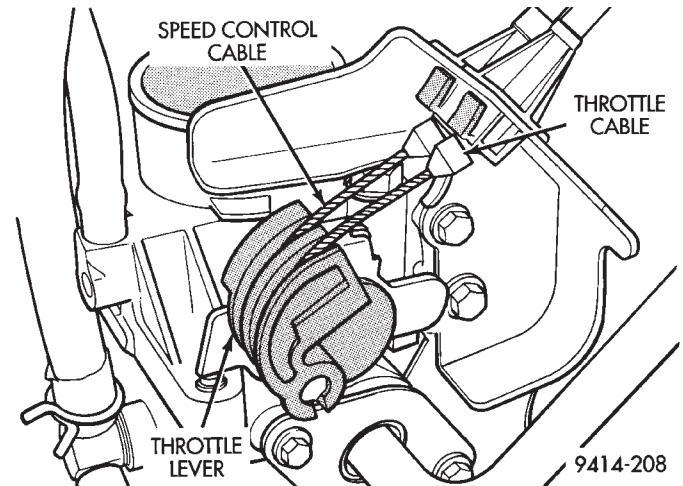
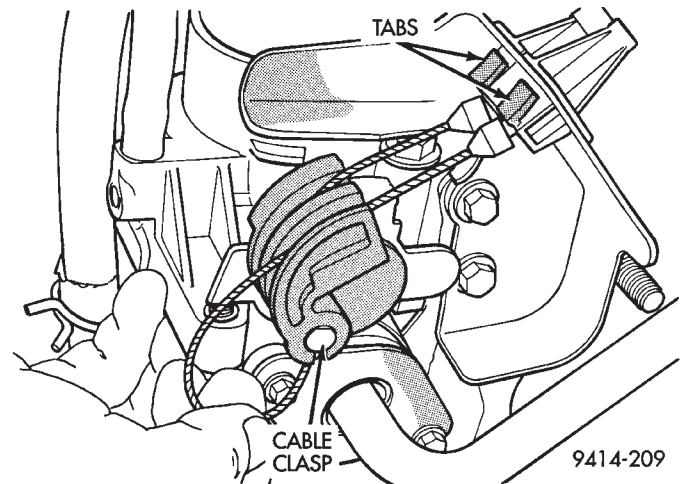

Fig. 73 Throttle Cable Attachment to Throttle Body
Fig. 74 Disconnecting Throttle Cable
- (1) Remove air inlet resonator as described in this section.
- (2) Remove the throttle control shield.
- (3) Remove throttle cable from the throttle body lever (Fig. 73) and (Fig. 74).